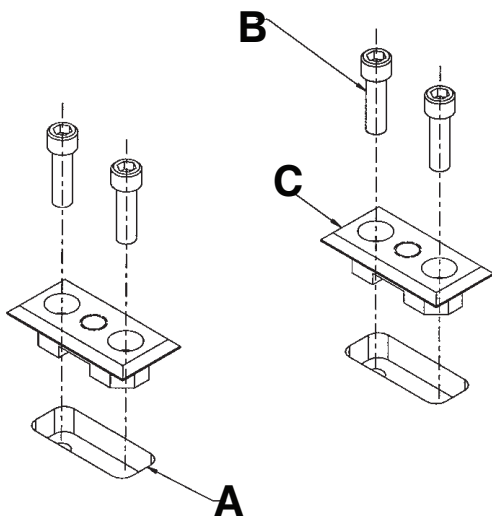

Figure 16 – Cut recessed openings over locating holes
- Cut two 1 in. x 2-1/2 in. x 9/16 in. deep recessed openings (A) into the floor centered over the locating holes (Figure 16).